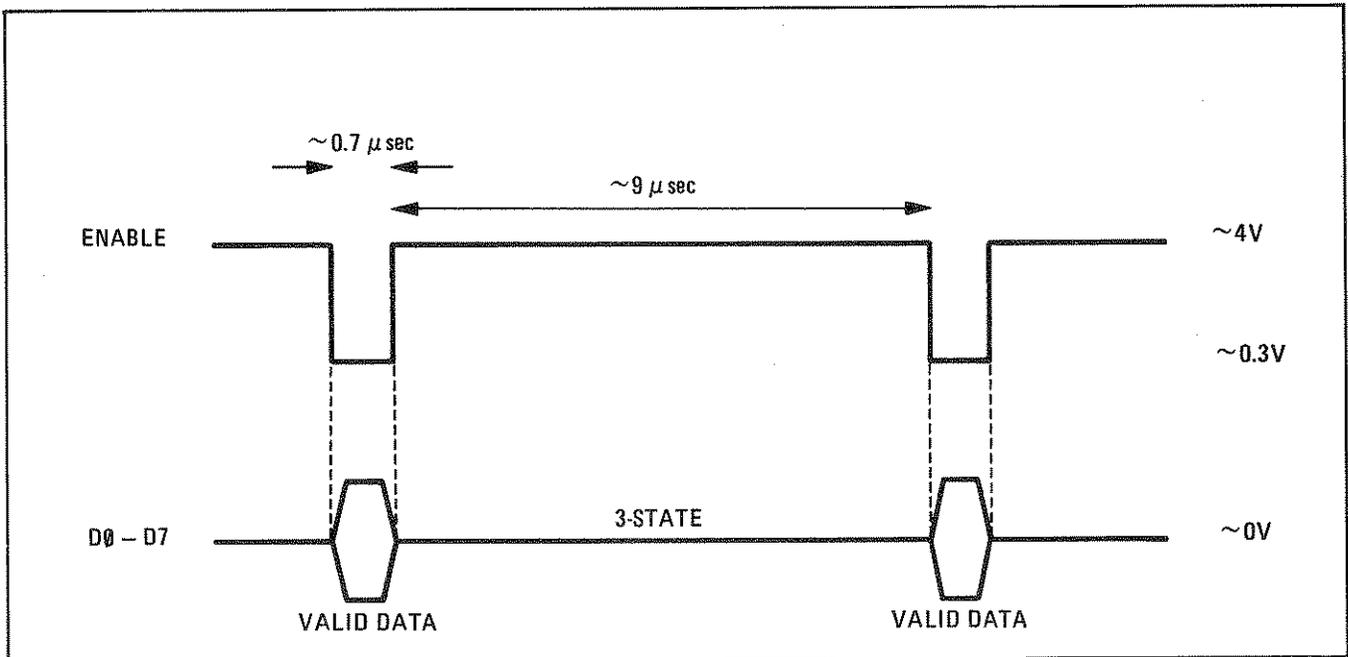

Figure 8-3. Hex Addressed Fast Read-Timing Diagram
- HEX ADDRESSED FAST READ, M5, provides an operator-initiated check for verification of the data bus, in which the addressed device is clocked in real time. Latch outputs can be traced from the onboard location back through the data bus to the microprocessor. At each buffer, verify TTL level response to the enable pulse. Enable line waveforms are shown in Figure 8-3.